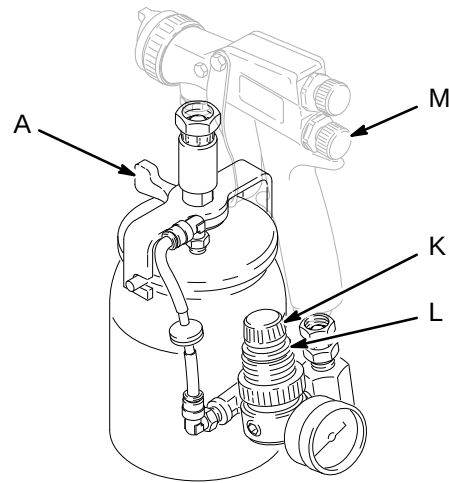

Fig. 4
3. Place the cup on a table and slowly release the clamp (A) to bleed-off any residual pressure in the cup. See Fig. 4. Be sure to push the clamp lever fully to the clamped position before turning on the air supply to the gun again.
1. Pull up the cup regulator adjustment knob lock-ring (L); this allows the knob (K) to turn. See Fig. 4.
2. Set the cup pressure at zero by turning the adjustment knob (K) fully counterclockwise.
3. Slowly turn the adjustment knob (K) clockwise to increase the air pressure to the cup.
4. Push the adjustment knob lock-ring (L) down to lock the cup pressure setting.
1. Pull up the cup regulator adjustment knob lock-ring (L). See Fig. 4.
2. Turn the adjustment knob (K) counterclockwise.
4. Turn the adjustment knob (K) clockwise until you obtain the desired pressure setting.
5. Push down the adjustment knob lock-ring (L).